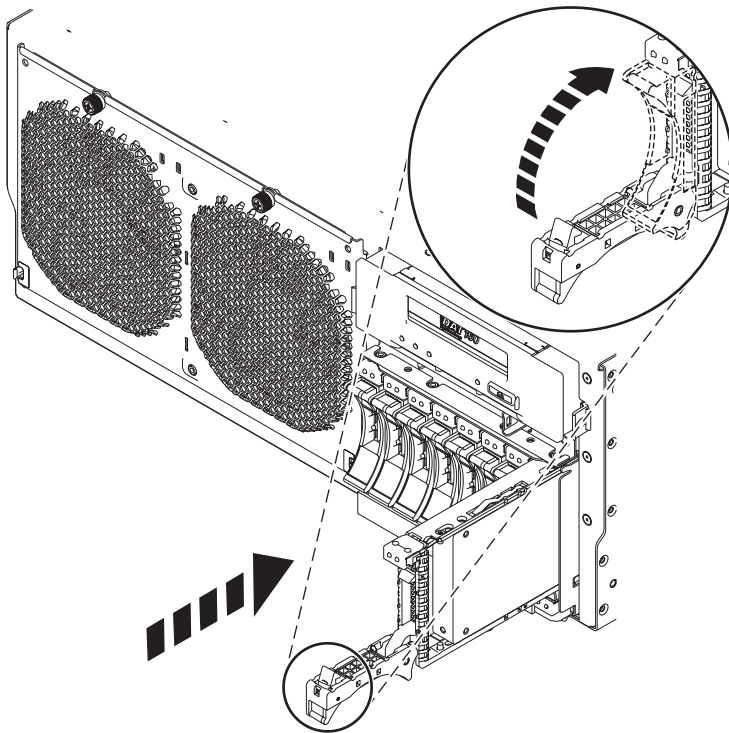

Figure 51. Replacing a disk drive in the system
8. When the identify LED turns on solid, slide the disk drive or solid-state drive all the way into the system or an expansion unit, and push the drive handle (A) in until it locks, as shown in Figure 51.